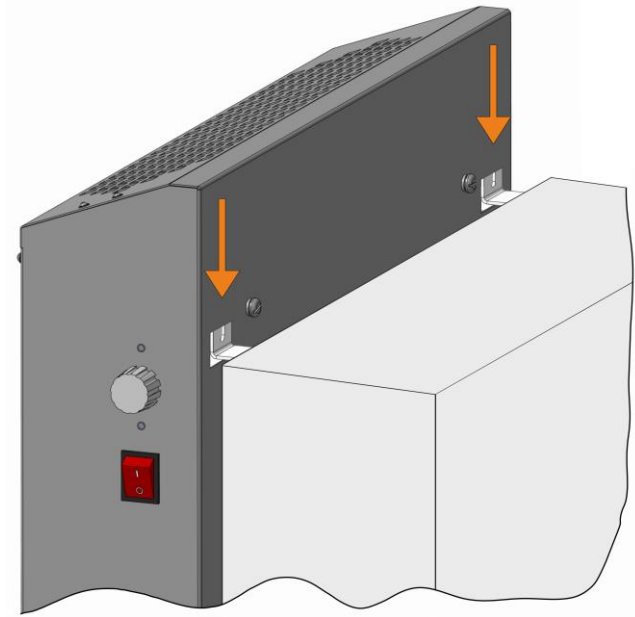

Figure 8 – Hinge the casing onto the brackets
3) hinge the casing onto the brackets and tighten the screws (see Figures 8, 9).